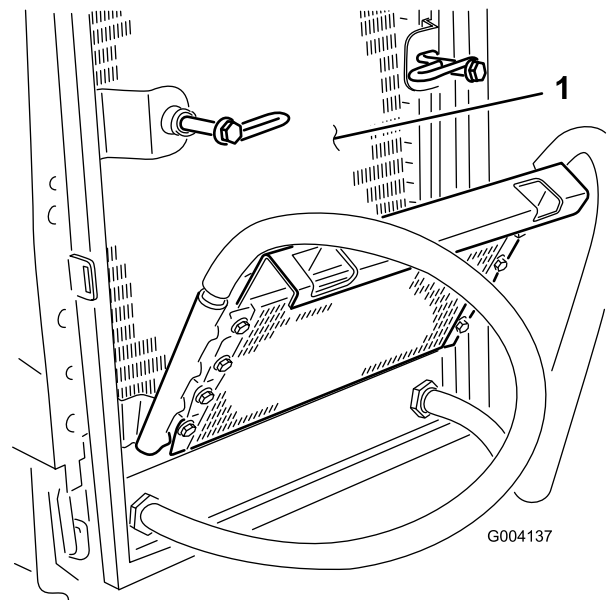

Figure 50
8. After the radiator and oil coolers are thoroughly cleaned, clean out any debris that may have collected on other parts of the machine (Figure 50) with compressed air.